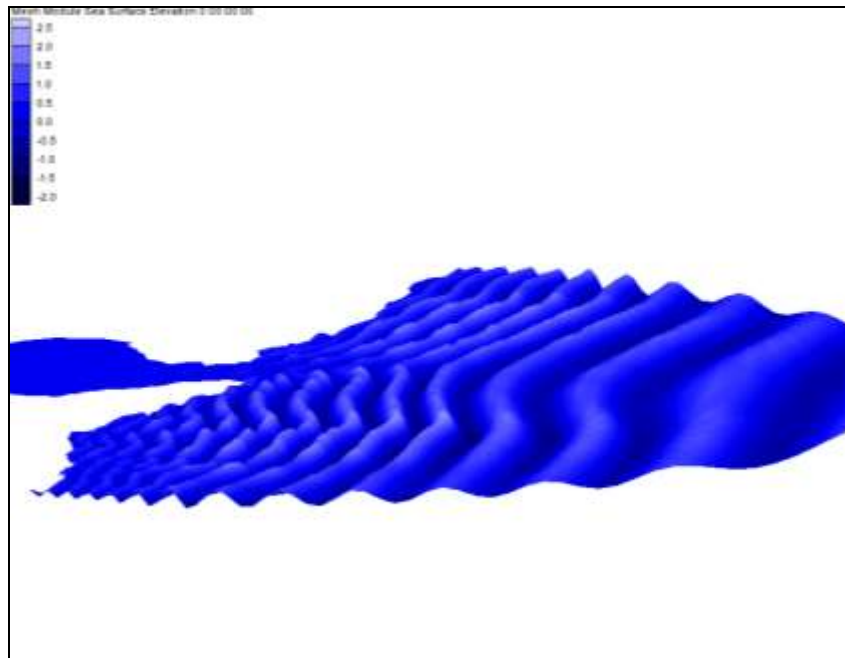

Figure 6 Functional surface showing waves
18. Using the **Rotate**  tool, rotate the mesh so it looks like Figure 6.